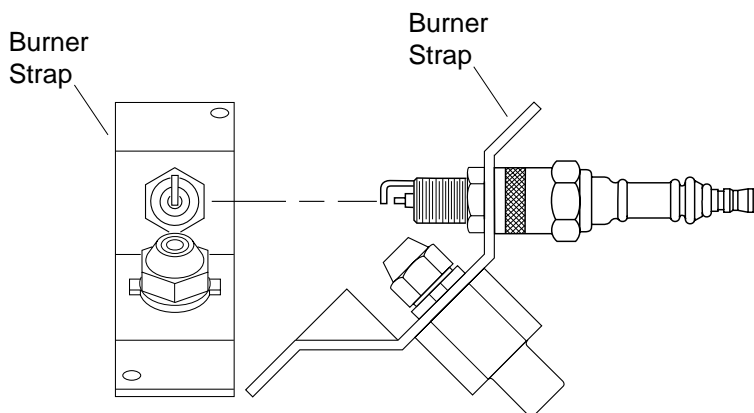

Figure 17 - Spark Plug Rotation, 30,000 BTU/Hr Model Only
10. Replace burner strap onto spark plug. Rotate burner strap to position spark plug electrodes (see Figure 17).